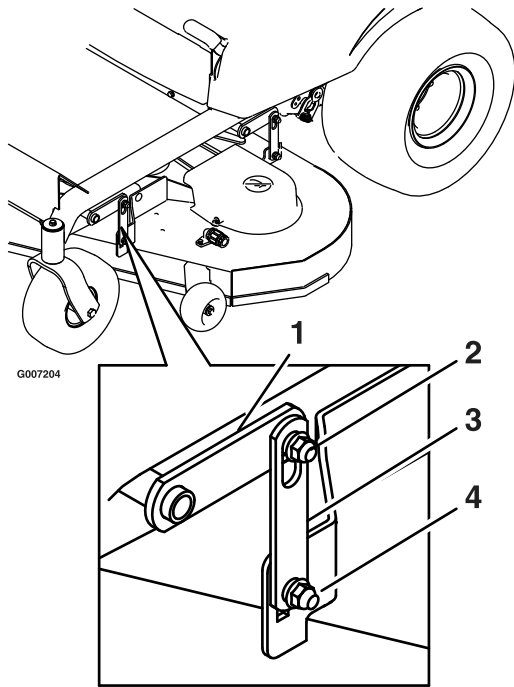

Figure 43
- Loosen the leveling adjust locking nuts (item 4) on all four corners so that the deck is sitting securely on all four blocks. Make sure that the deck hangers are all the way down (at the top of the slot) and the deck lift foot lever is pushed back against the stop, then tighten the four leveling adjust locking nuts (Figure 43).